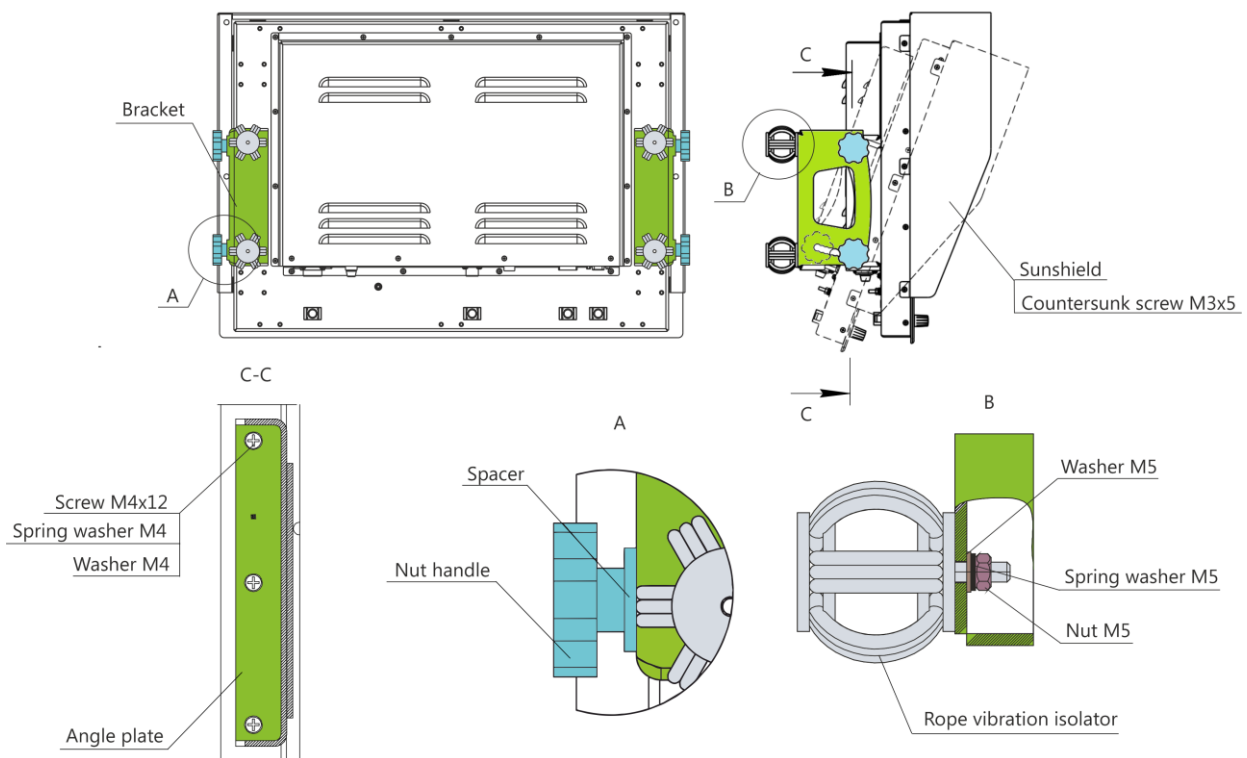

Figure 6 – Wall mounting with an adjustable bracket
4) Wall mounting with an adjustable bracket (see figure 6) ensures mounting on a surface using adjustable brackets, nut handles and a mounting kit of metal ware.